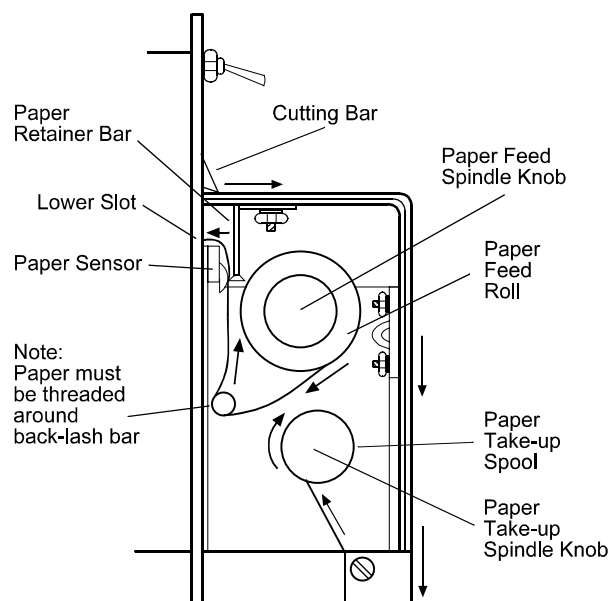

Figure 8-5: Changing the Internal Printer Paper
5. Thread the paper into the printer. Run the paper off the front of the paper feed roll and around the bottom of the back lash bar, then up and over the Paper Sensor and into the lower slot of the printer (see Figure 8-5). Advance the paper with the Paper Advance Thumbwheel (using a downward stroke) until the paper comes out the top of the printer. If the thumbwheel does not work, push up the black plastic Thumbwheel Release Lever on the left side of the printer so you can thread the paper into the printer.